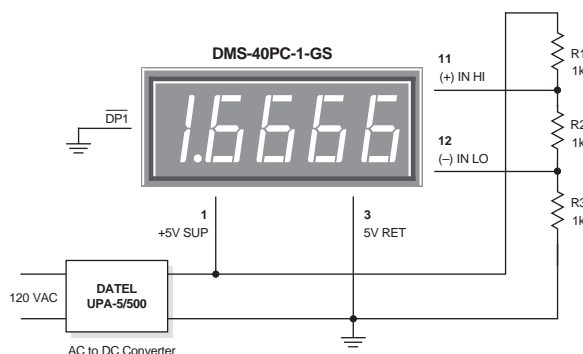

Figure 3. Differential Input Configuration
- 2. Differential Input Configurations:** Differential inputs can also be measured with DMS-40PC meters as shown in the circuit of Figure 3. Differential inputs must also originate from power supplies that have a common ground with the meter's 5V RETURN (pin 3). However, differential inputs usually have both terminals above and/or below 5V RETURN. Figure 3, though not necessarily a typical real-world application, does serve the purpose of illustrating the concept of a differential signal.